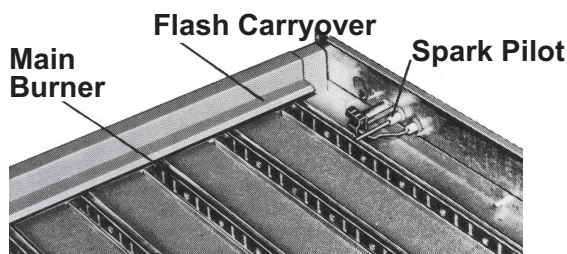

Figure 13. Typical Burner Rack with Spark Pilot
- **Pilot:** The horizontal pilot is located in the control end of the burner rack (see Figure 13) and is accessible after the control compartment panel has been removed. All pilots are target type with lint-free feature. Pilot gas pressure should be the same as supply line pressure (refer to Gas Supply Pressure section). If required, adjust the pilot flame length to approximately 1-1/4 inch using pilot adjustment screw in control valve body.